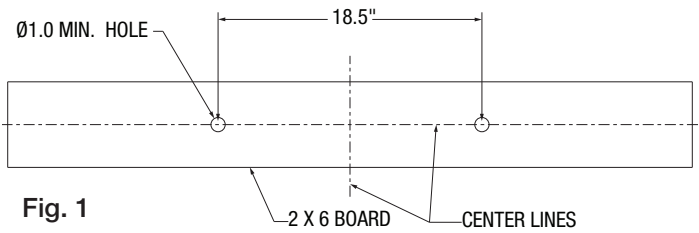

Fig. 1
- D. Prepare 4 boards as shown in Fig.1. A board size is 2" x 6", 49" long minimum (cross boards from shipping pallet can be used). Boards can be as long as width of inside width of trucks body.